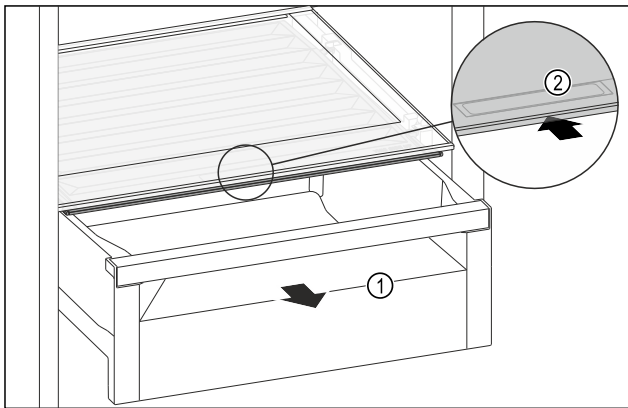

Fig. 111
- ▶ Pull out the drawer Fig. 111 (1).
- ▶ Grasp the recessed grip Fig. 111 (2) on the compartment lid and push the compartment lid backwards at the same time.